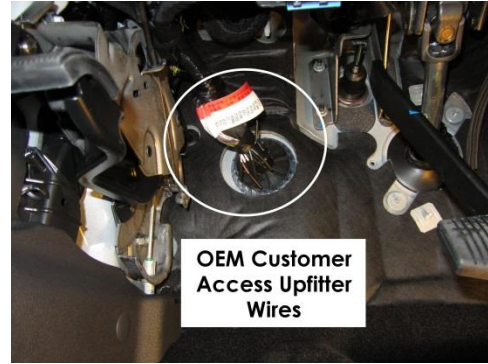

Figure 43. Customer Access wires.
7. Locate the OEM customer access upfitter wiring, under the dash, behind the brake pedal. See Figure 43.